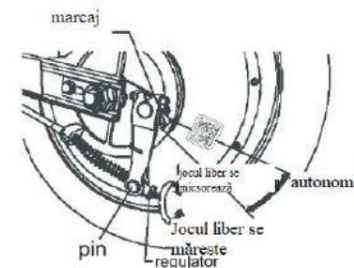

Figure 3-3
(2) The adjustment of the clearance between the rear brakes is shown in Figure 3-3. If the brake does not operate smoothly or the brake cable is adjusted too tightly, the nut on the adjuster should be adjusted according to the adjustment method of "free play decreases" and "free play increases" as shown in the figure.